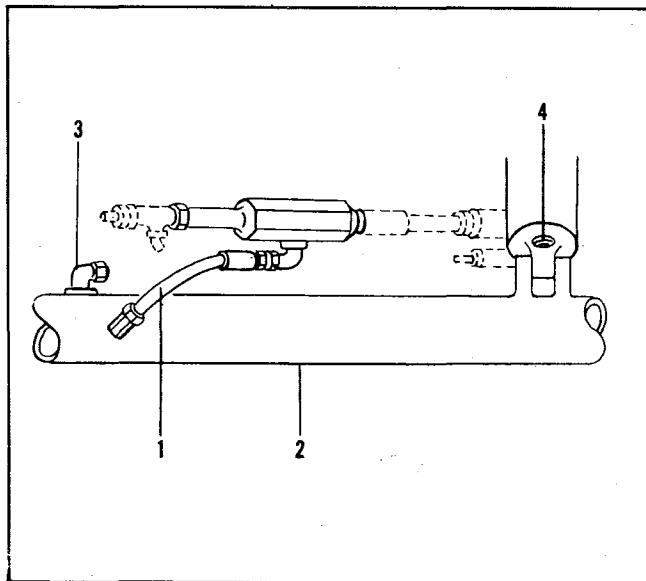

Figure 3-25. Check Valve Test
b. CHECK VALVE TEST (See figure 3-25.)